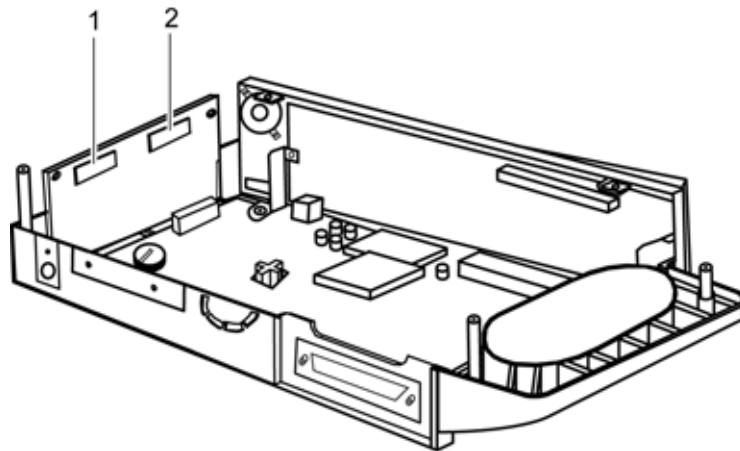

Figure 22: MP-506 Cable Connections
3. Disconnect the front case SpO₂ cable connector from the MP-506 PCB connector. See Figure 22 item 1.